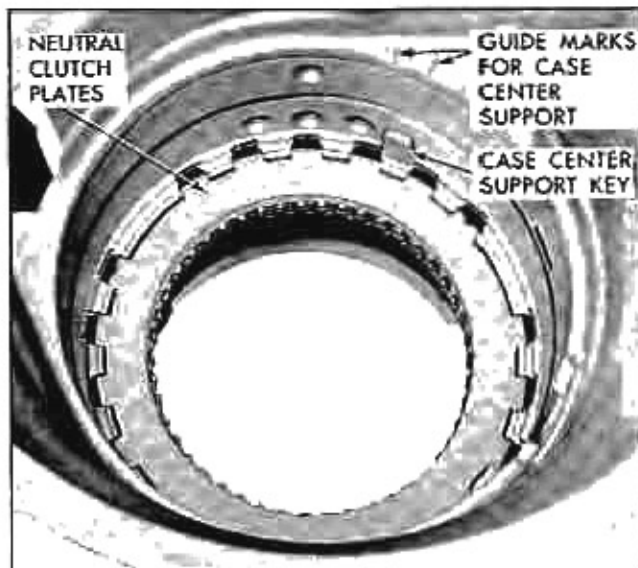

Fig. 63 Neutral Clutch Plates and Case Center Support Key in Case
5. Remove the case center support key from the transmission case (Fig. 63).